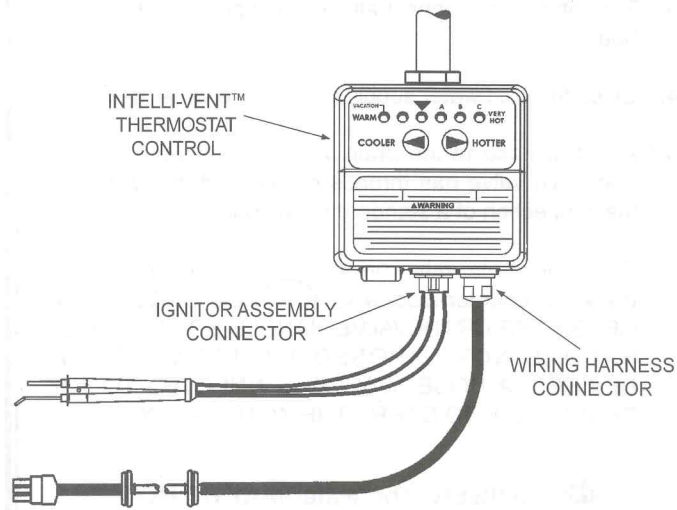

FIGURE 1.
2. Locate the wiring harness and connector that comes out of the water heater's jacket and is plugged into the Intelli-vent™ Thermostat Control. Squeeze the connector and pull it straight out of the control, see Figure 1.
3. Locate the ignitor assembly and connector that comes out of the combustion chamber of the water heater and is plugged into the Intelli-vent™ Thermostat Control. Squeeze the connector and pull it straight out of the control, see Figure 1.